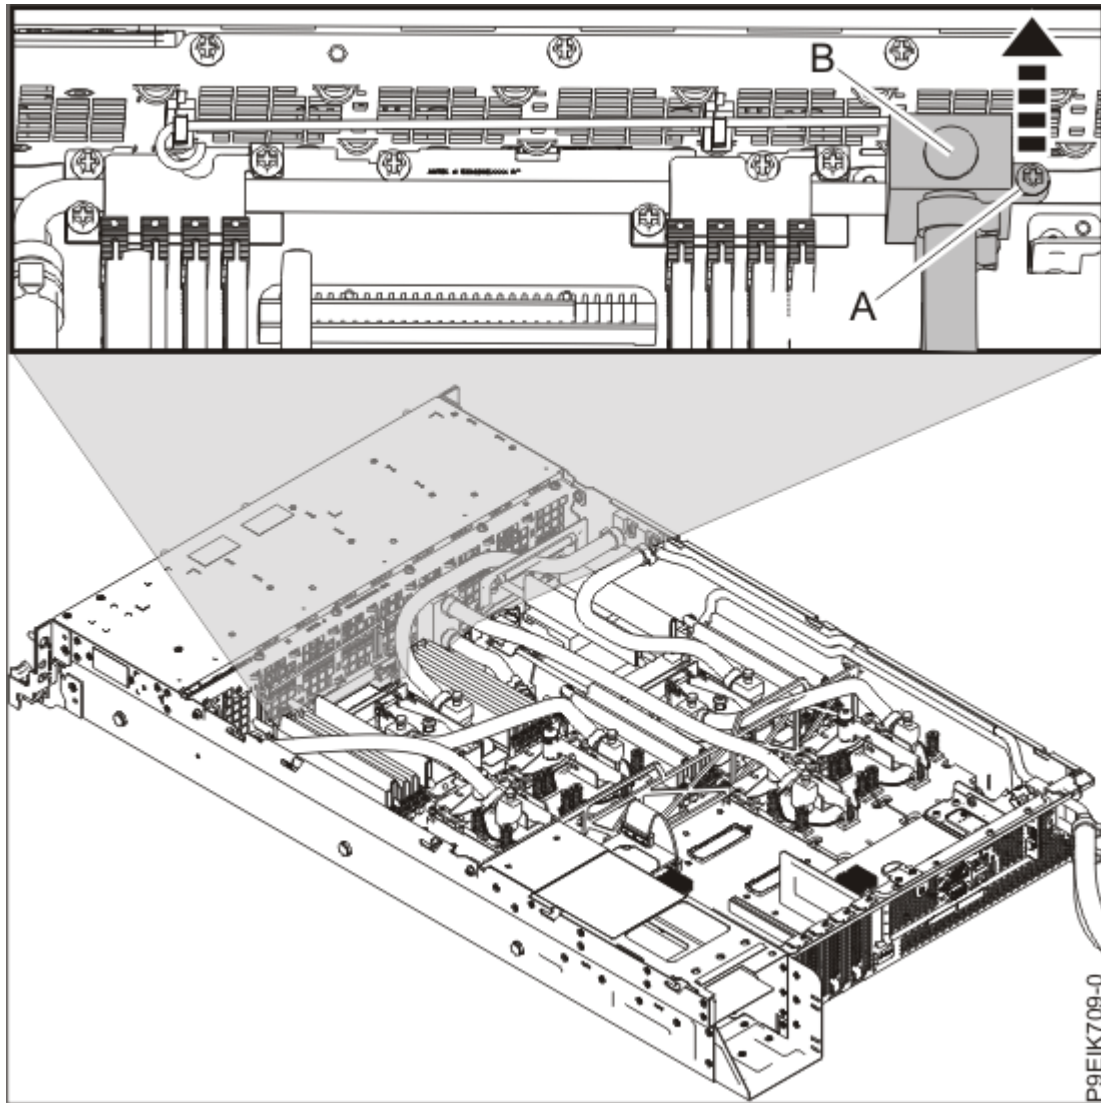

Figure 10. Loosen the front pipe screw
7. Loosen the screw **(A)** that secures the pipe junction **(B)** to the front of the system as shown in Figure 10 on page 14.